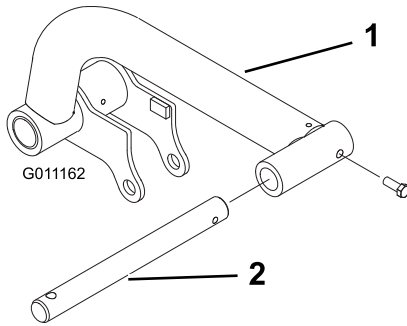

Figure 14
2. Insert a pivot rod into each lift arm and align the mounting holes (Figure 14).